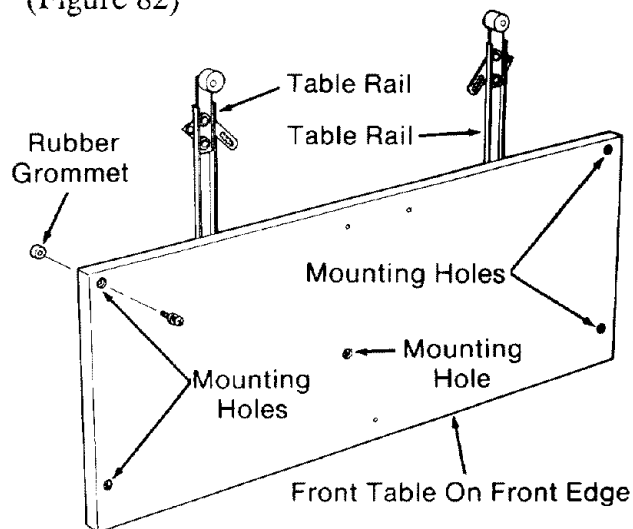

Fig. 82
6. Put a *mounting screw* through each of the *mounting holes*. Then put a *rubber grommet* on the bottom of each *mounting screw*. (Figure 82)